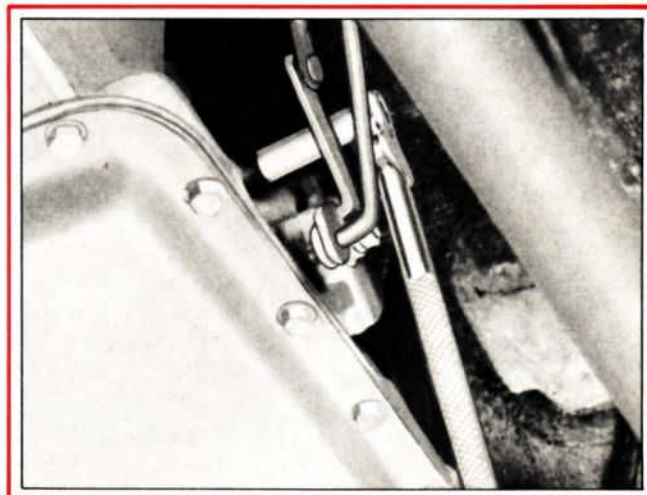

Figure 16—Adjusting the C6 Intermediate Band Externally Using a Special Tool
- With the special tool shown in Figure 16, tighten the adjusting screw until the tool handle "clicks."